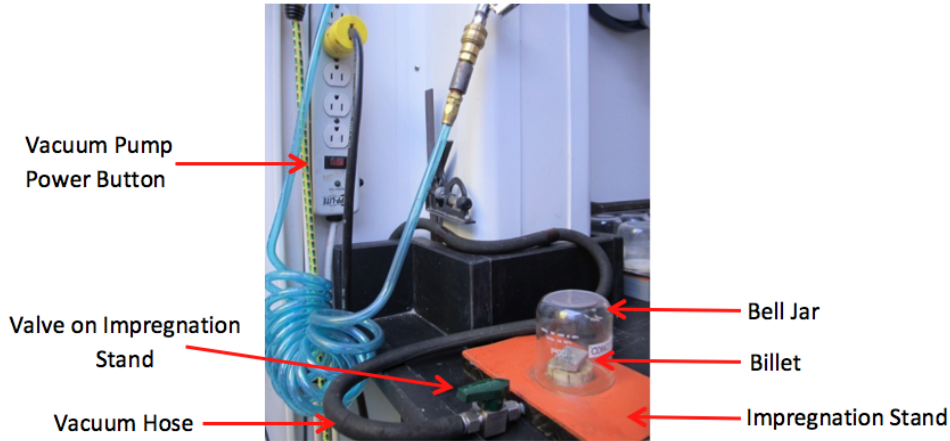
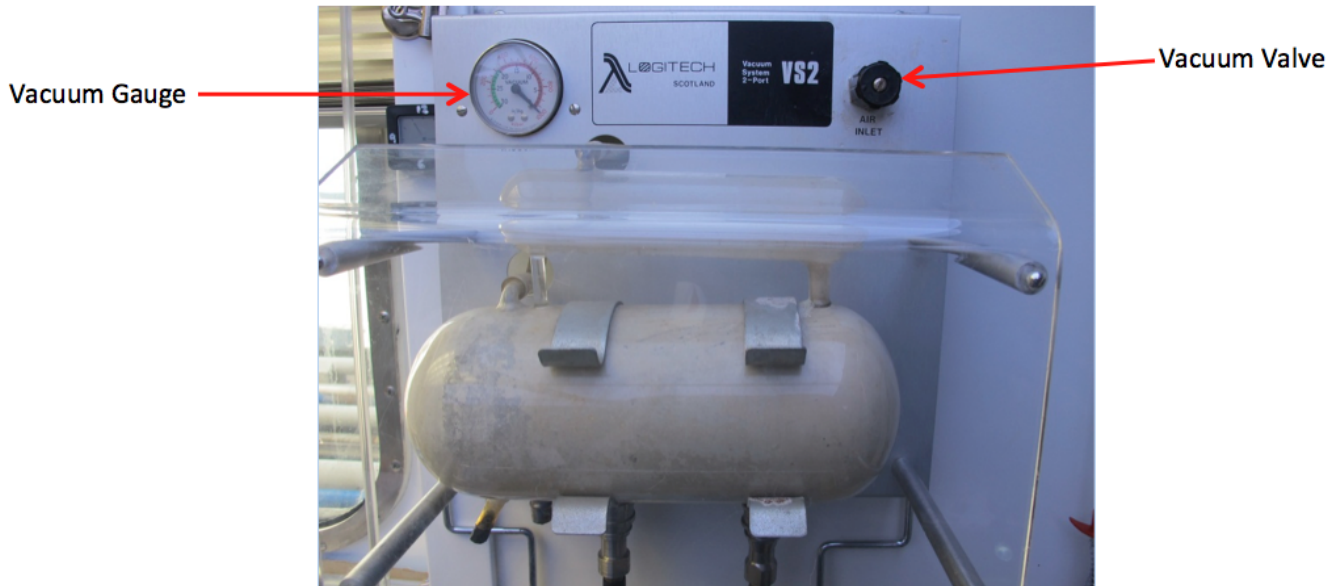
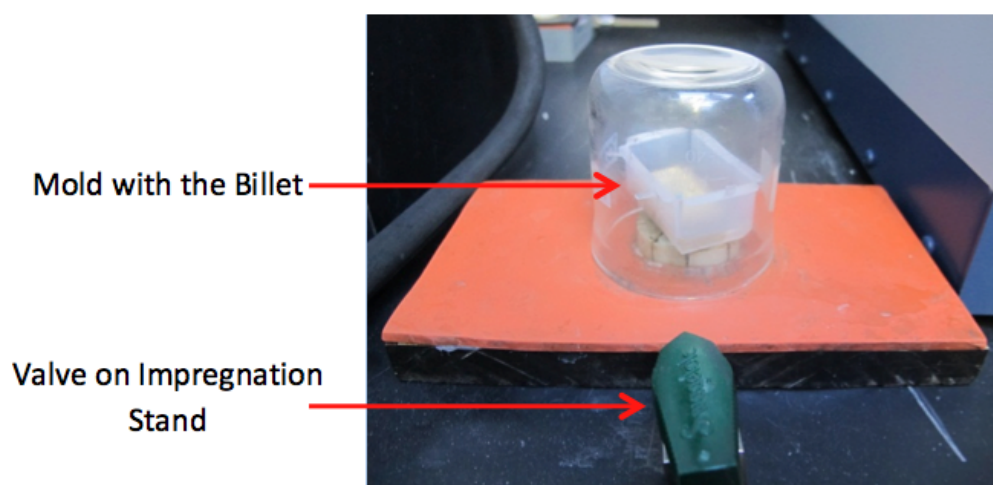

Figure 4
Figure 5
Figure 11
2. Hook up the vacuum hose to the impregnation stand (Fig. 4).
3. Place the billet under the bell jar (Fig. 4).
5. Turn on vacuum pump by turning on the power strip connected to the wall (Fig. 4).
6. Close the valve on the upper right side of the Logitech VS2 (Fig. 5) and make sure the valve on the impregnation stand is open (parallel with the vacuum hose) (Fig. 4).
6. Hook up the vacuum hose to the impregnation stand (Fig. 4).
7. Place the mold with the billet under the bell jar (Fig. 11).
9. Turn on vacuum pump by turning on the power strip connected to the wall (Fig. 4).
10. Close the valve on the upper right side of the Logitech VS2 (Fig. 5) and make sure the valve on the impregnation stand is open (parallel with the vacuum hose) (Fig. 11).